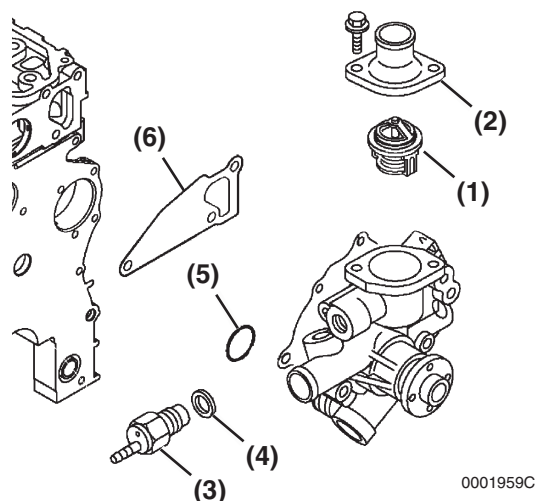

Figure 4-4-9
1. Reinstall the thermostat (**Figure 4-4-9, (1)**).
2. Reinstall the thermostat cover (**Figure 4-4-9, (2)**). Tighten the thermostat cover bolts.
3. Reinstall the temperature switch (**Figure 4-4-9, (3)**) and a new gasket (**Figure 4-4-9, (4)**).
4. Position the engine coolant pump on the engine and install a new gasket (**Figure 4-4-9, (6)**). Use a new special O-ring (**Figure 4-4-9, (5)**) on assembly between the engine coolant pump and the joint.